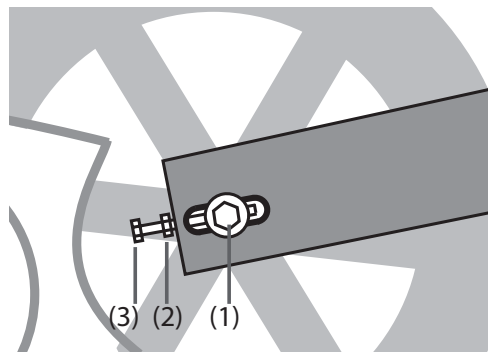

Figure 30
3: Loosen the nuts (2) on the counter bolt on both sides of the cycle using a 10mm wrench, see figure 30.
8: Check that the magnet is still passing the control box in front of the arrow printed on the back side of the control box, see figure 30. If not, loosen the screws holding the control box to the flange and slide the box in front of the magnet. Tighten the two screws by hand.